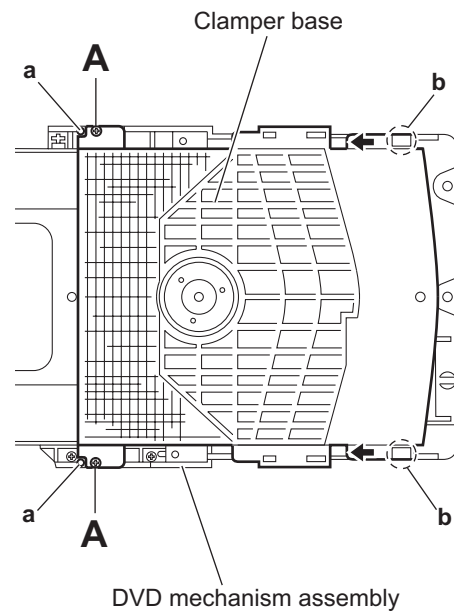

Fig.1
3.2.1 Removing the clamper base (See Fig.1)